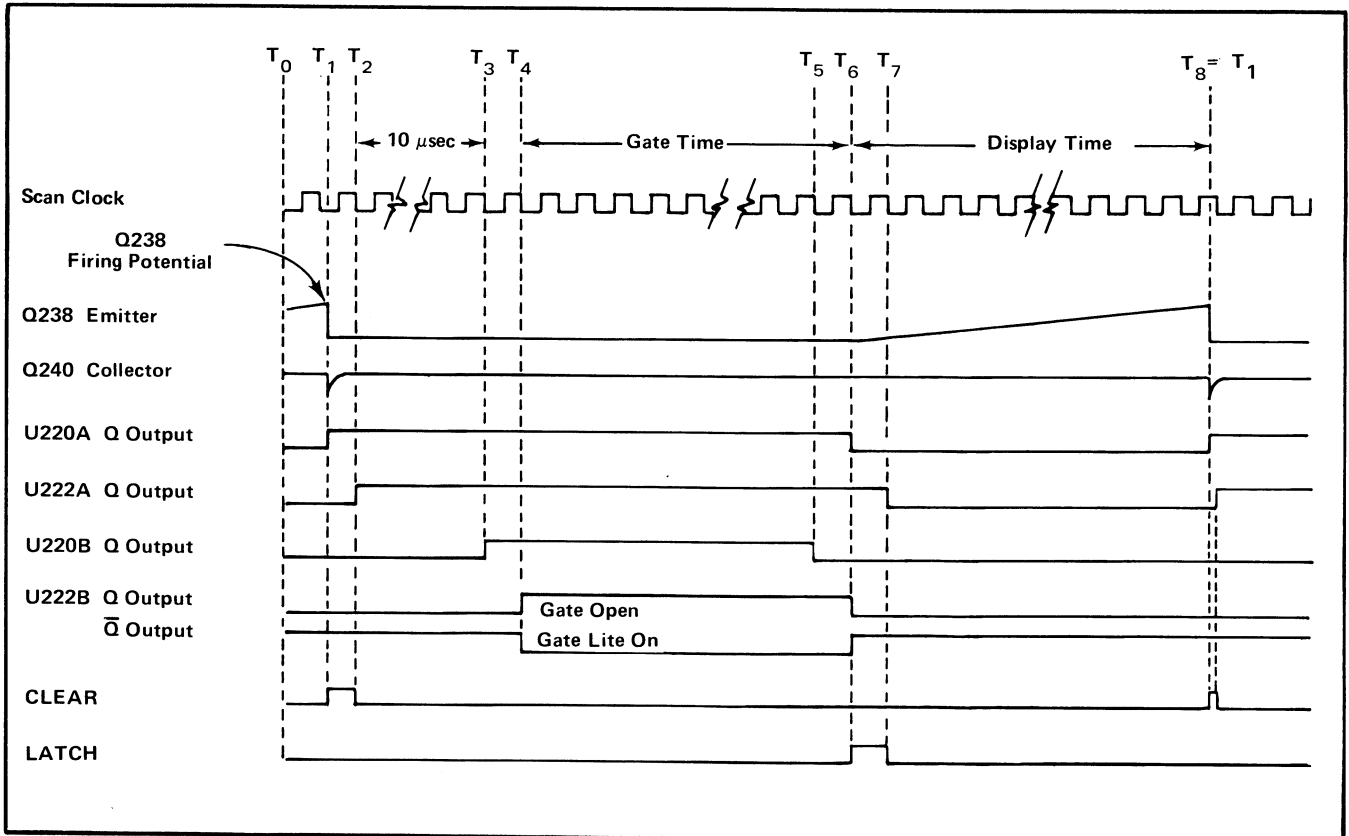

Fig. 2-1. Time Base generator normal gating mode ladder diagram.
Assume that the  $T_0$  conditions are as given in Fig. 2-1. The Q outputs of U220A, U222A, U220B, and U222B are all LO. Q230 is off and the emitter of Q238 rises as C235 charges. At  $T_1$ , Q238 reaches its firing potential and discharges the capacitor. This results in a short-duration LO pulse on the direct-set input (pin 2) of U220A, forcing its Q output HI and its  $\overline{\text{Q}}$  output LO. With two HI inputs on NAND gate U230A, its output goes LO and the output of
At the end of a 10-microsecond delay (time for the DDU's to count the first digit, plus a propagation delay), a negative transition from the DDU's via the MEASUREMENT INTERVAL switch toggles U220B. This corresponds to  $T_3$  in Fig. 2-1. U220B's Q output goes HI and its  $\overline{Q}$  output goes LO. The next negative transition from the 1-MHz clock ( $T_4$ ) toggles U222B, causing its Q output to go HI (GATE open) and its  $\overline{Q}$  output to go LO (supplying current to the front-panel GATE indicator LED, DS225). The GATE signal is also applied to the base of Q230, saturating the transistor and preventing C235 from charging.
The GATE remains open (HI) for the time duration selected by the MEASUREMENT INTERVAL switch. At the end of this time, which corresponds to  $T_5$  in Fig. 2-1, another negative transition from the DDU's toggles U220B. U220B's Q output goes LO and its  $\overline{Q}$  output goes HI. The next negative transition from the 1-MHz clock ( $T_6$ ) toggles U222B, causing its Q output to go LO, closing the GATE. Simultaneously, the  $\overline{Q}$  output goes HI, removing current from the GATE indicator LED.